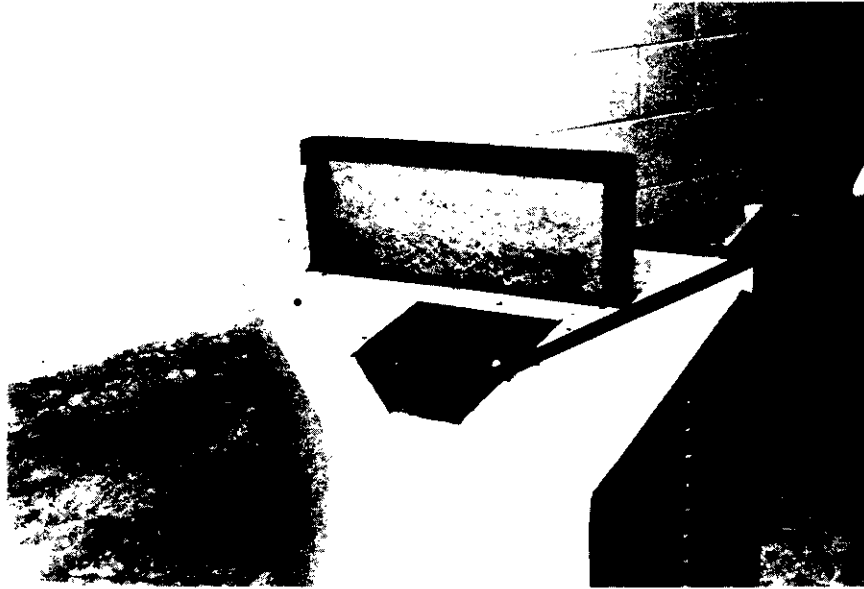
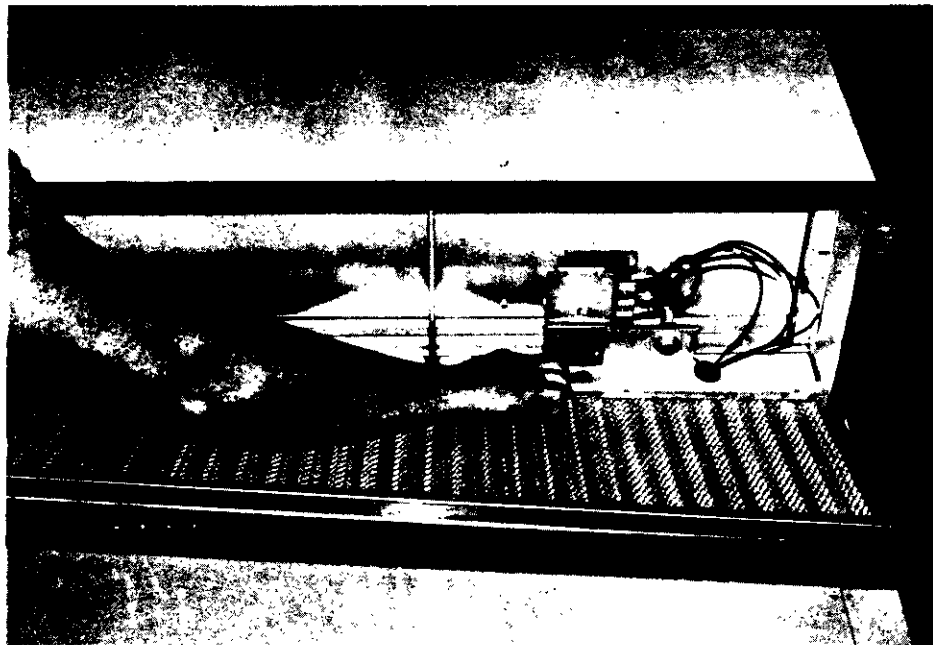

FIGURE 9
FIGURE 10
- 13.) REMOVE FILTER ACCESS AND CONTROL ACCESS PANELS ON SIDE OF INTAKE HOOD OF ECONOMIZER ASSEMBLY. (SEE FIGURE 9) REMOVE MOISTURE ELIMINATOR UNDER INTAKE HOOD OF ECONOMIZER. (SEE FIGURE 10)
- A.) LOCATE THE MINIMUM POSITION LEVER ON THE MOTOR (SEE ENCLOSED MANUFACTURERS LITERATURE) LOCATED ABOVE WIRING TERMINALS, (FIGURE 9).
- C.) CYCLE THE MINIMUM POSITION LEVER (FACTORY SET FOR 0% FRESH AIR) 0 TO FULL OPEN. (SEE FIGURE 9) THROUGHOUT CHECKOUT PROCEDURE OBSERVE OPERATION OF DAMPER TO INSURE THERE IS FREE, UNOBSTRUCTED OPERATION THROUGH THE ENTIRE RANGE OF DAMPER TRAVEL. THEN ADJUST THE DAMPER MINIMUM OPEN POSITION TO MEET LOCAL CODES OR APPLICATION REQUIREMENTS. (SEE EXAMPLE BELOW)
- E.) LOCATE THE ENTHALPY CONTROL ADJUSTMENT KNOB ON ENTHALPY CONTROL IN ECONOMIZER INTAKE HOOD (FIGURE 10).
- F.) ADJUST THE ENTHALPY CONTROL TO POSITION A,B,C,D, TO ACHIEVE THE MAXIMUM COMBINATION OF TEMPERATURE AND HUMIDITY ACCEPTABLE FOR THE INSTALLATION AS PER THE CHART IN MANUFACTURERS ENCLOSED INSTRUCTIONS. (THE SUGGESTED SETTING IS BETWEEN A & B 70° DB @ 55 PERCENT RH. IT IS FURTHER RECOMMENDED TO ALWAYS SET THE CONTROL AT C OR ABOVE (FIGURE 10)).
- G.) SWITCH THE THERMOSTAT FAN CONTROL TO AUTOMATIC AND POSITION THE HEAT COOL SWITCH TO COOL. ADJUST THE THERMOSTAT TEMPERATURE TO ENGAGE THE FIRST STAGE OF COOLING ONLY (Y). THIS WILL CAUSE THE DAMPERS TO FULLY OPEN TO PROVIDE 100% OUTSIDE AIR PROVIDED OUTSIDE AIR ENTHALPY IS SUFFICIENTLY LOW. IF ENTHALPY IS TOO HIGH FOR ECONOMIZING, LOW ENTHALPY CAN BE SIMULATED BY TEMPORARILY REMOVING AND JUMPING LEADS ON TERMINAL 2 AND 3 OF ENTHALPY CONTROL TOGETHER. THIS WILL ALSO CAUSE THE ECONOMIZER DAMPER TO MODULATE AWAY FROM MINIMUM POSITION (BE SURE TO PROPERLY RECONNECT LEADS AT END OF CHECKOUT PROCEDURE).